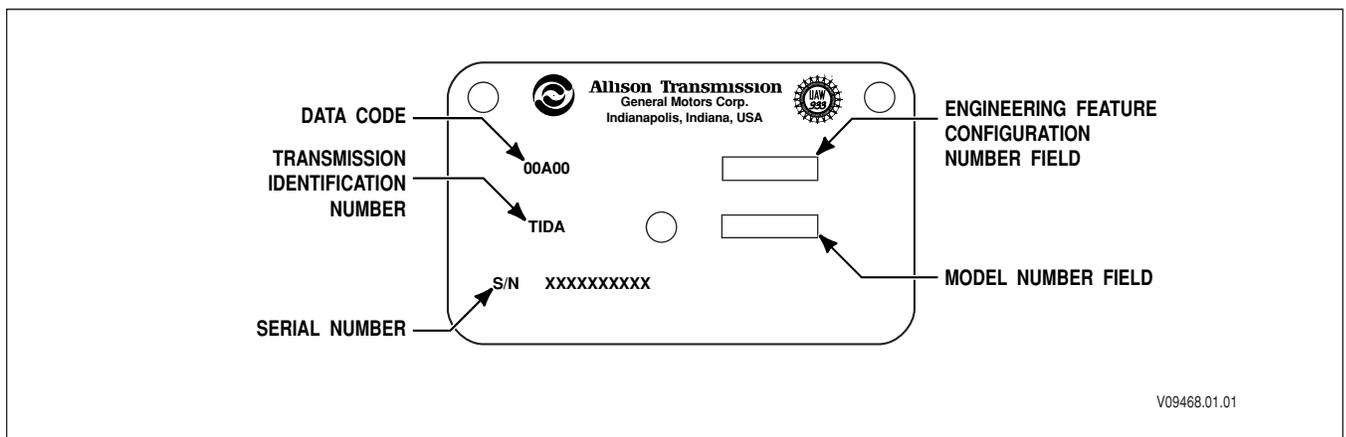

Figure 1-7. Transmission Nameplate
a. Transmission Nameplate. The nameplate (Figure 1-7) is located on the right side of the transmission. The nameplate is imprinted with the following: